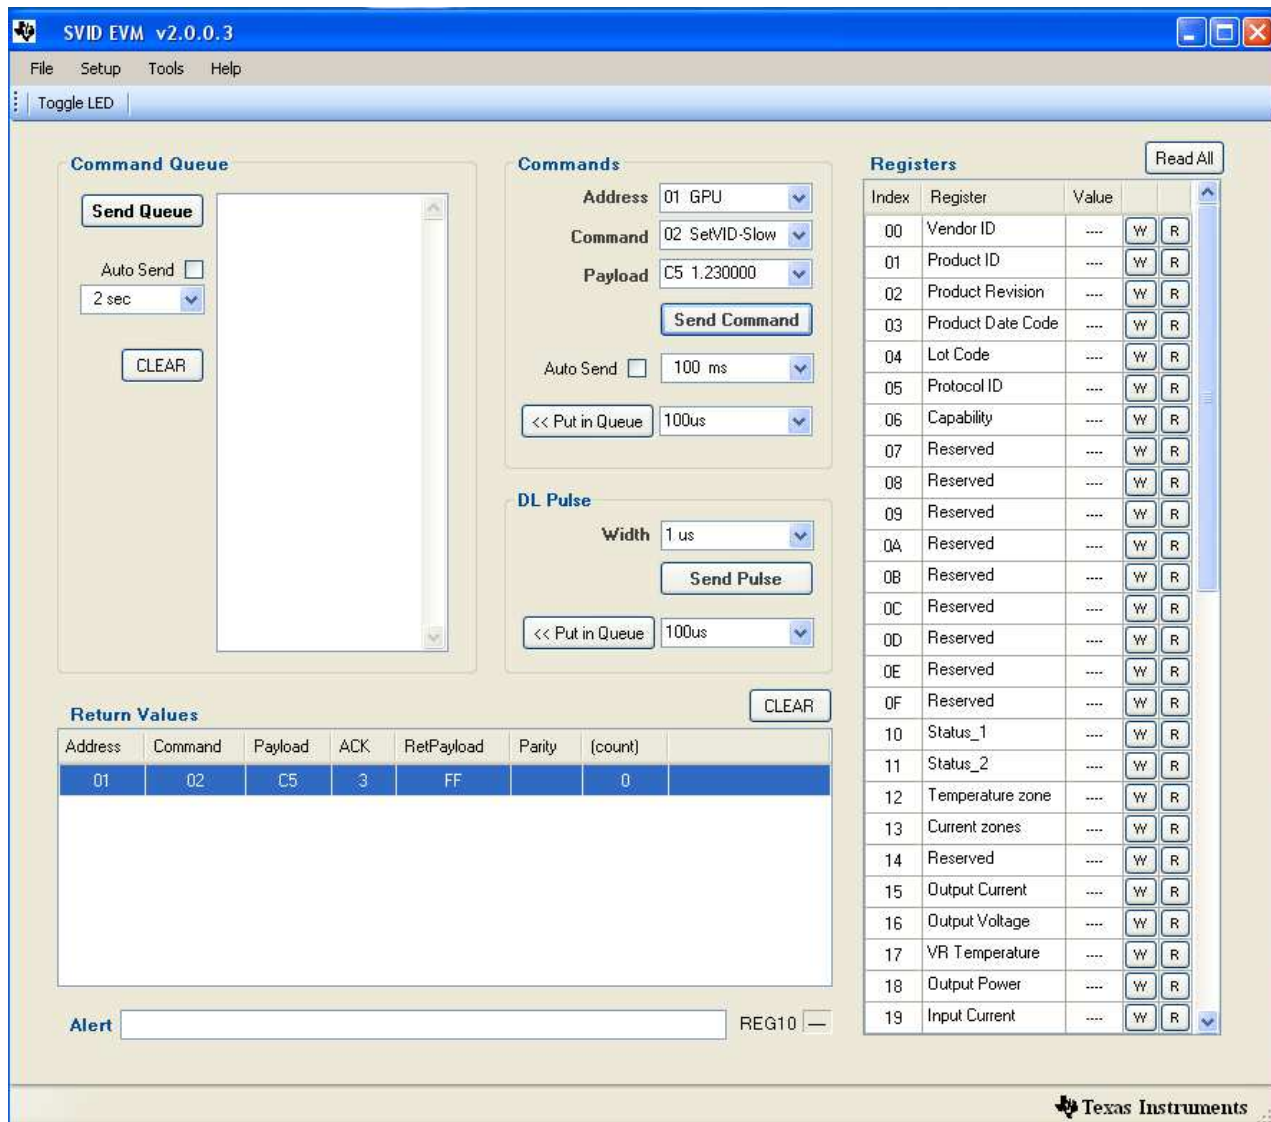

Figure 6. TPS59650EVM-753 GPU GUI set up Window
5. Click "send Command" and GPU GPOOD LED will light up, See the GUI window as Figure 6.